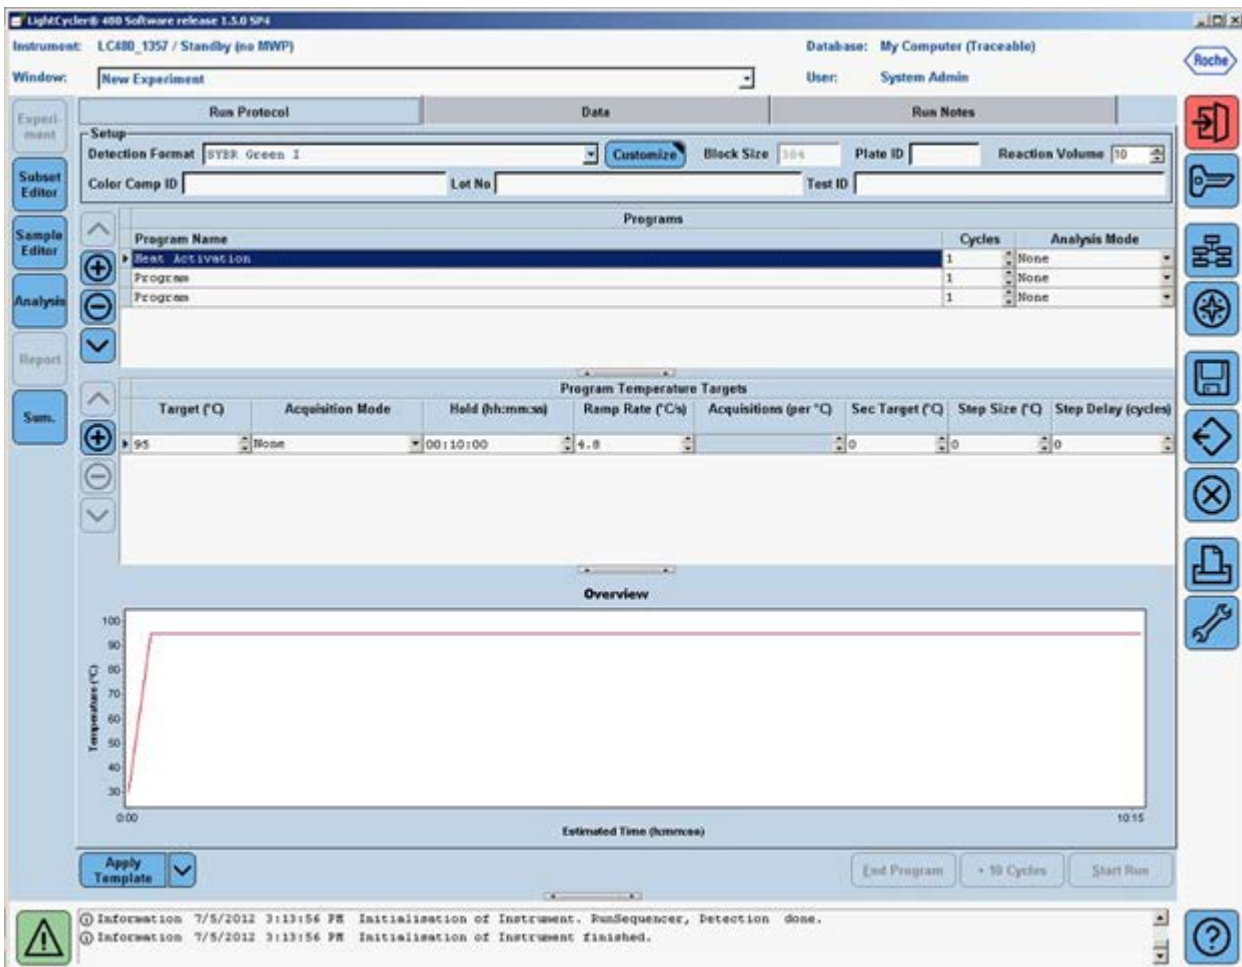

Figure 3. Setup of the first program — “Heat Activation.”
7. Click to change the "Program Name" of the first program to "Heat Activation." Leave the number of "Cycles" at "1", and leave the "Analysis Mode" as "None." In the "Program Temperature Targets" section, enter the values for the following parameters (see Figure 3):